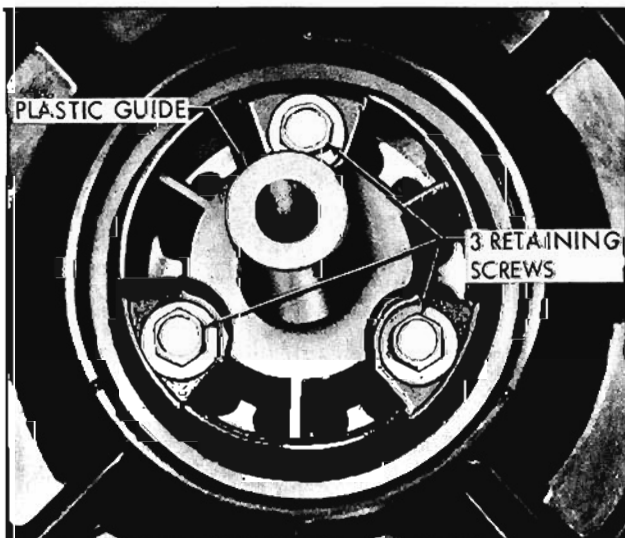

Fig. 11-59 Location of Guide Screws
15. Loosen the three guide attaching screws and remove the guide. Remove the rubber reaction bumper from the guide. (Fig. 11-59)